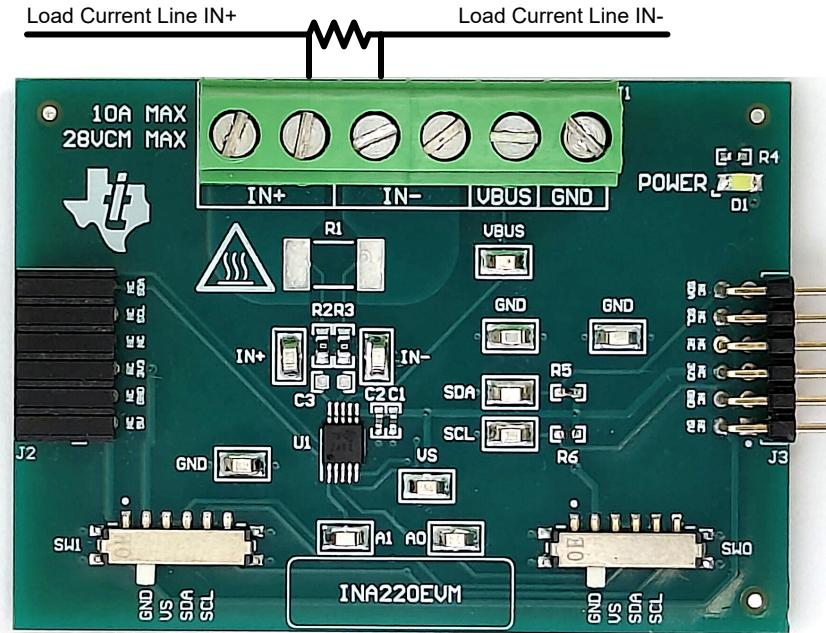
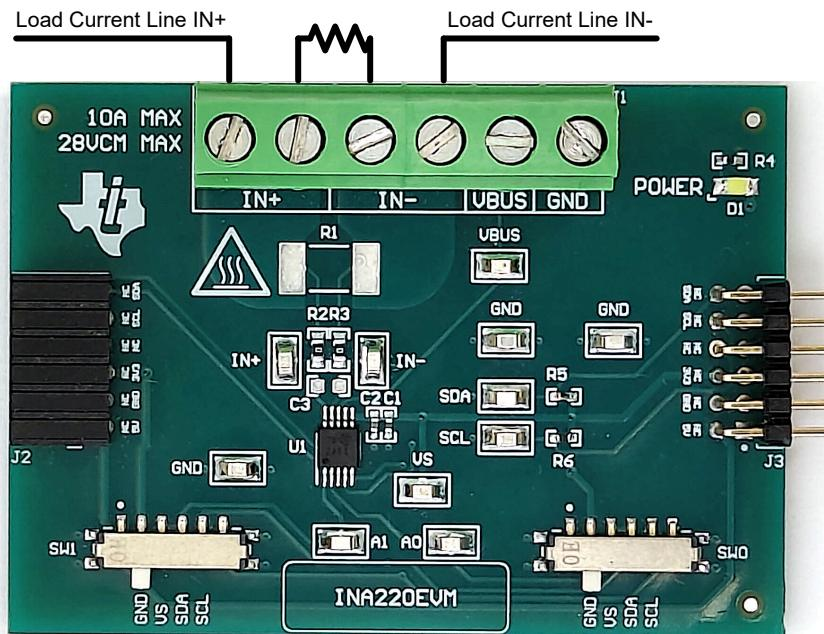

Figure 2-3. IN+ and IN- Wiring for More Than 10 A
Figure 2-4. IN+ and IN- Wiring for 10 A or Less
- b. Connect an external shunt across the IN+ and IN- terminals of J1, preferably across pins 4 and 5, as shown in Figure 2-3 and Figure 2-4.
- a. When measuring more than 10 A, make sure the high current path does not go through the EVM (including the terminal block J1), as shown in Figure 2-3.
- b. When using 10 A or less with either an onboard or external shunt, the current path can be passed through the EVM. Figure 2-4 shows a convenient way to use the multiple IN+ and IN- terminals with an external shunt for this use case.